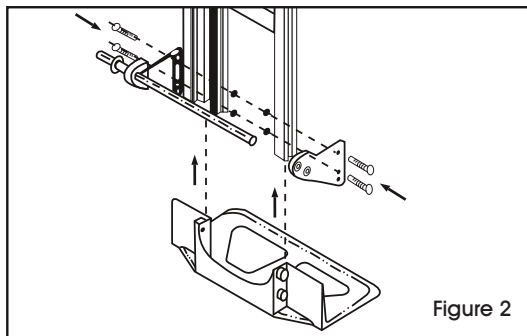

Figure 2
2. Align axle support with outside rail of frame. Make sure axle support is positioned as shown in Figure 2.